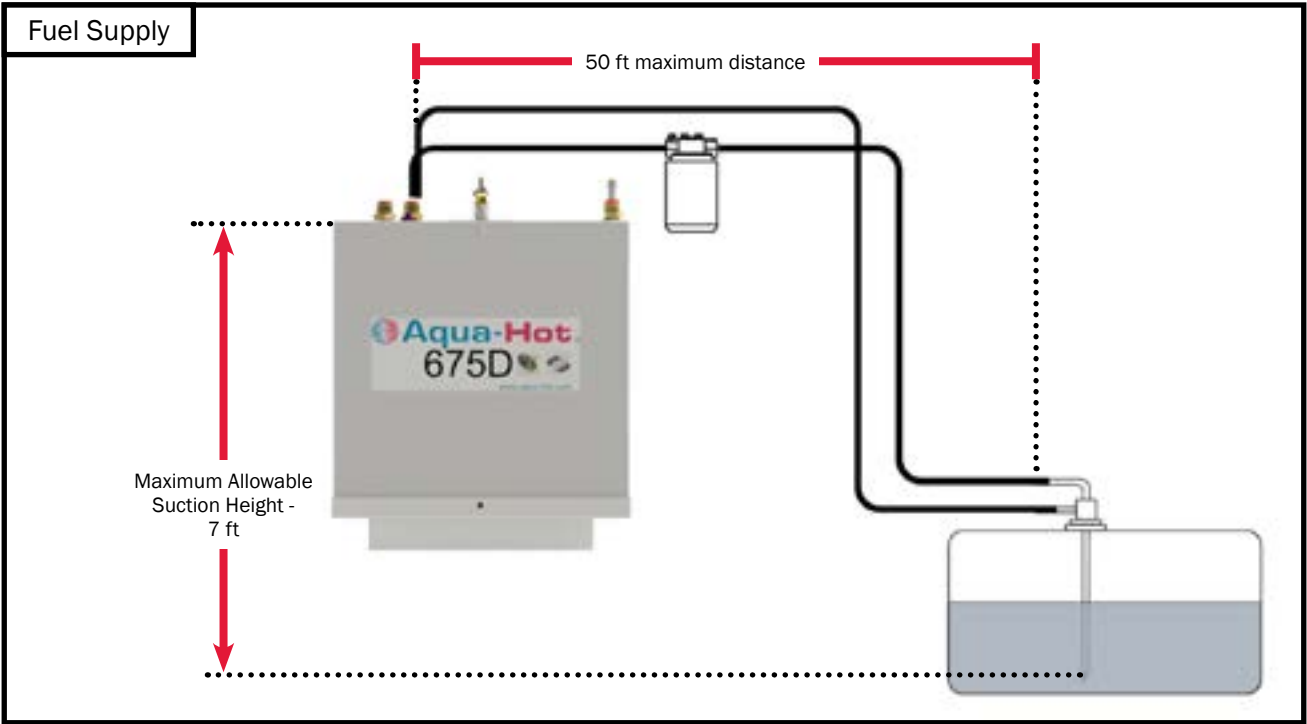

Figure 44
- The combined length of the supply and return fuel lines should not exceed 100 feet in total length. Reference Figures 44 & 45.